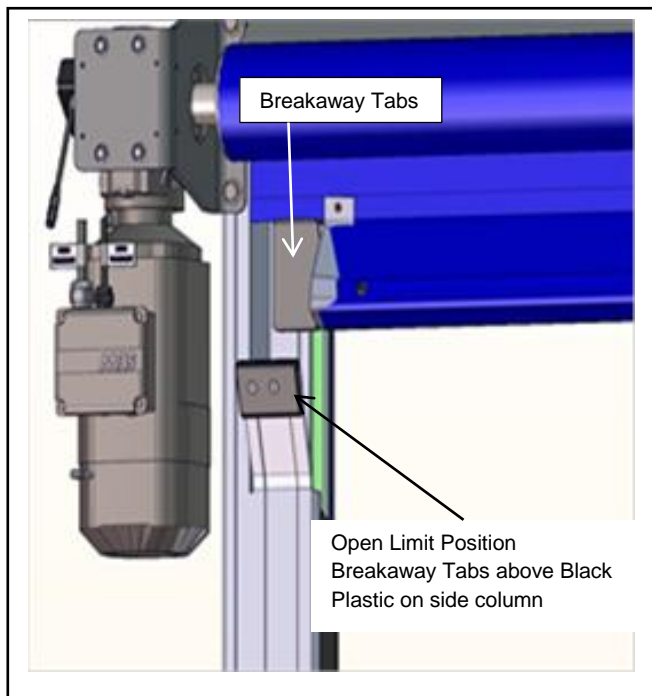

Figure 23
3. Insert the plastic tabs on the flexible bottom edge into the slot of each side column. (See Figure 23.)